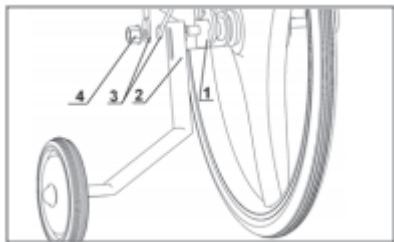
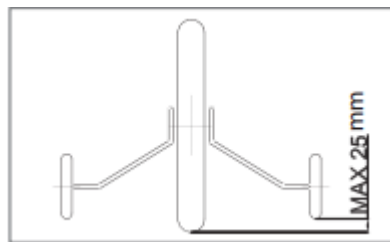

Fig. 1 – Training wheel assembly
Fig. 2 – Minimum distance of the wheels from the ground.
The brakes must be set so that the brake pads are in contact with the rim (Fig. 2) even when squeezed halfway (Fig. 1).
Affixing the training wheels (Fig. 1):
1. Unscrew the nuts (4) from the rear wheel axle.
2. Assemble the mug guard (3, optional). Do not disassemble the stabilizers (1).
3. Assemble the following components from first to last: wheel arms (2) mud guard (3).
4. Set the training wheels so that there would be a 25 mm gap between the wheels and the ground (Fig. 2). Tightening force = 17 N m.